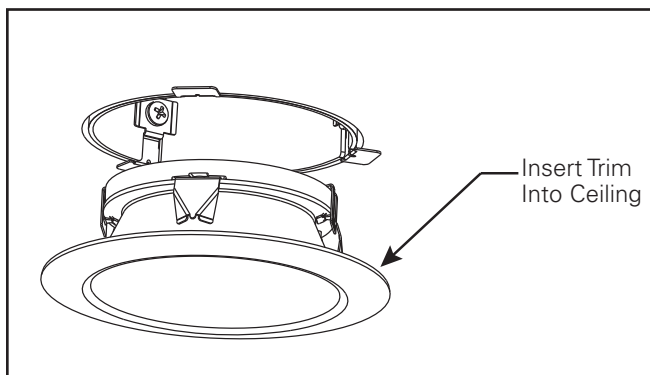

Figure 6
1. Insert trim into the opening of the LED module until it is flush against the ceiling (see figure 6).